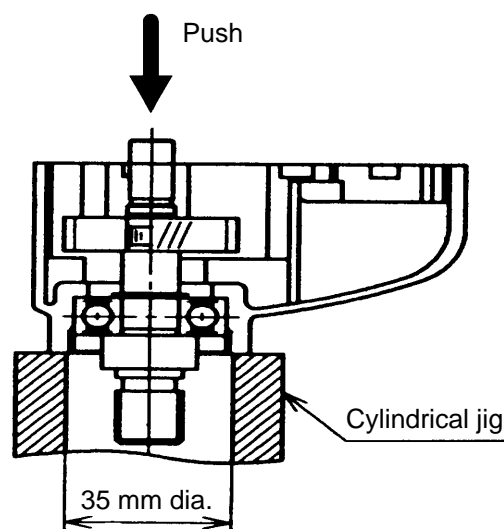

Fig. 5
- (1) Loosen the four Tapping Screws D5 x 55 [7], and remove the Gear Cover [8], together with the Spindle [4], the Final Gear [16], and the related parts as a single unit. Then, the Second Pinion [10] and Washer [11] can be removed easily.
- (2) Remove the Bearing Caps [3] with the J-21 wrench.
- (3) As illustrated in Fig. 5, support the tip of the Gear Cover [8] with a cylindrical jig of inside diameter 35 mm or more, and push the rear portion of the Spindle [4]. At this time, the Final Gear [16] will come off of the Spindle.
- (4) Remove the D12 Retaining Ring [6] from the Spindle [4], and the Ball Bearing [5] can be removed from the Spindle [4] with the J-30 bearing puller ass'y (special repair tool, Code No. 970804).